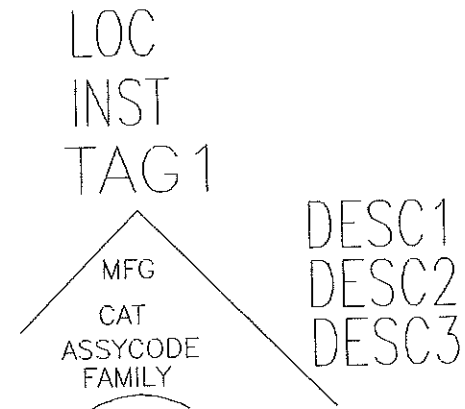

Figure 13-39 Different attributes inserted into the symbol
20. Similarly, change the height of the DESC1, DESC2, DESC3, INST, and LOC attributes to **0.25** using the **Properties** button in the **Required** rollout and then insert these attributes to the symbol using the **Insert Attribute** button, as shown in Figure 13-39.